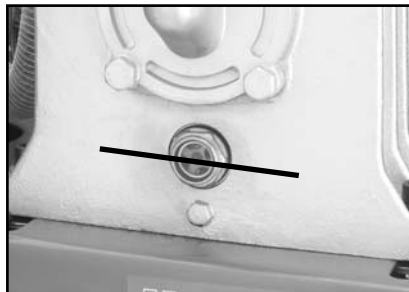

Figure 3. Proper oil level.
3. **ADD OIL TO THE CRANKCASE.** Oil has been supplied with your air compressor. The oil level should be in the center of the sight gauge shown in **Figure 3**.